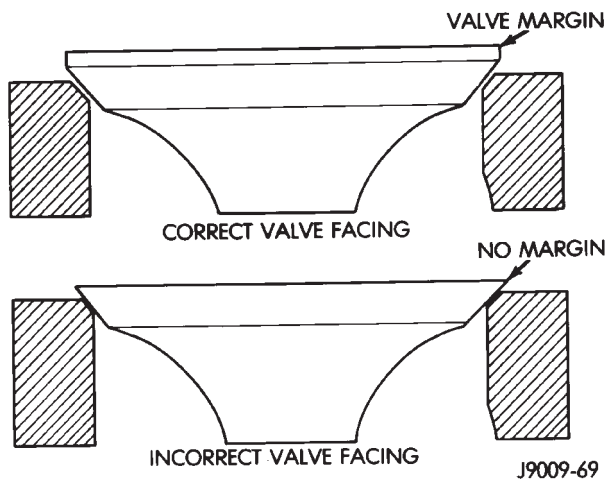

Fig. 8 Valve Facing Margin
- (1) Use a valve refacing machine to reface the intake and exhaust valves to the specified angle.
(2) After refacing, a margin of at least 0.787 mm (0.031 inch) must remain (Fig. 8). If the margin is less than 0.787 mm (0.031 inch), the valve must be replaced.